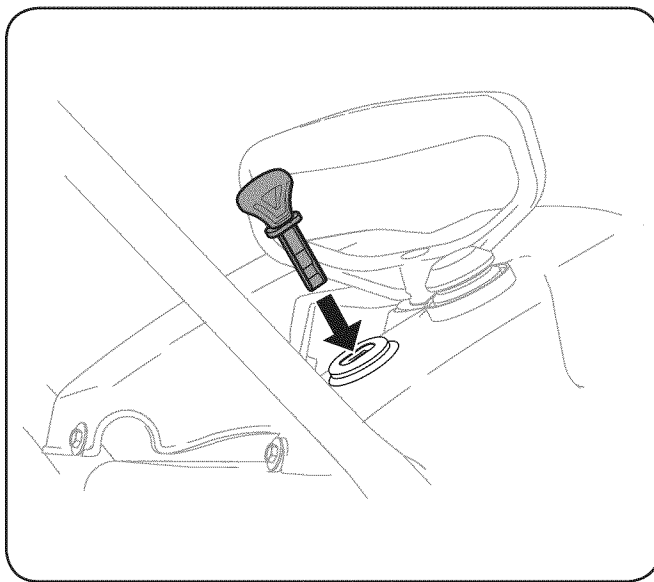

Figure 5-1
2. Insert the key into the slot. See Fig. 5-1.